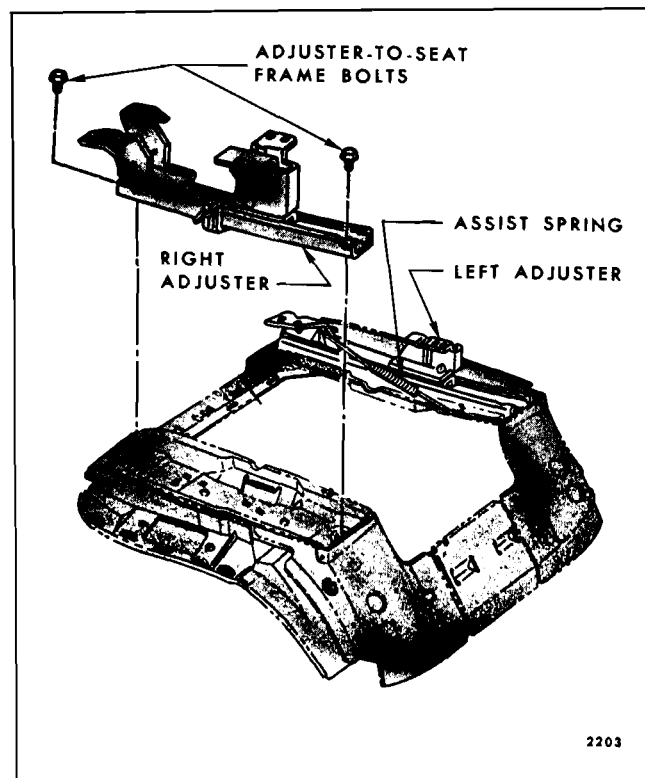

Fig. 15-43—Manual Bucket Seat Adjuster Removal
2. If replacing inboard adjuster, remove assist spring (Fig. 15-43).
3. Operate adjuster so that both front and rear adjuster-to-seat frame attaching bolts (Fig. 15-43) are accessible; then, remove attaching bolts and remove adjuster from seat assembly.